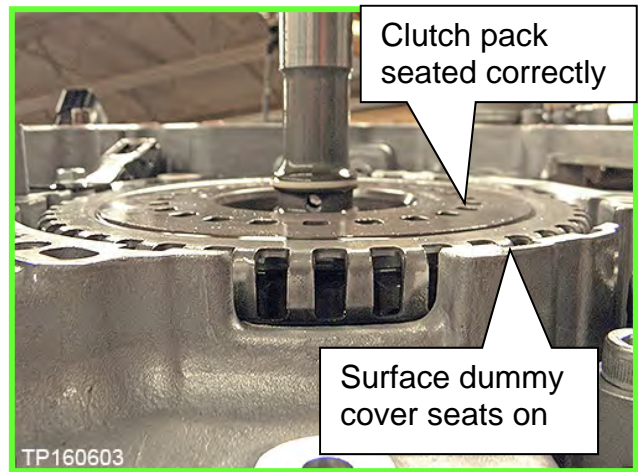

Figure 208
- Figure 208 shows clutch pack fully seated.